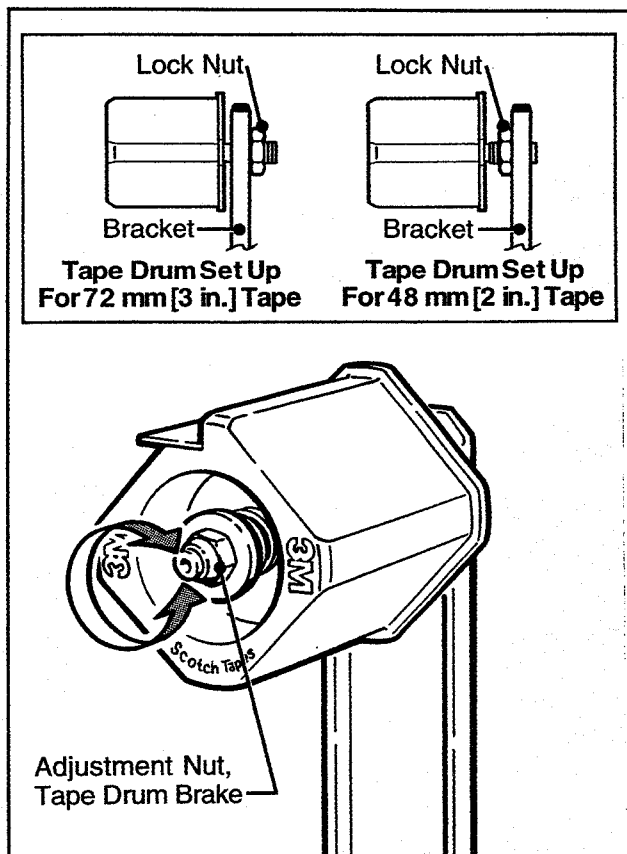

Figure 5-2 – Tape Drum Friction Brake
**Note** – To set up 72 mm tape drum for 48 mm tape, disassemble tape drum from bracket and install lock nut between tape drum and bracket as shown in inset, Figure 5-2.
### Tape Drum Friction Brake – Figure 5-2